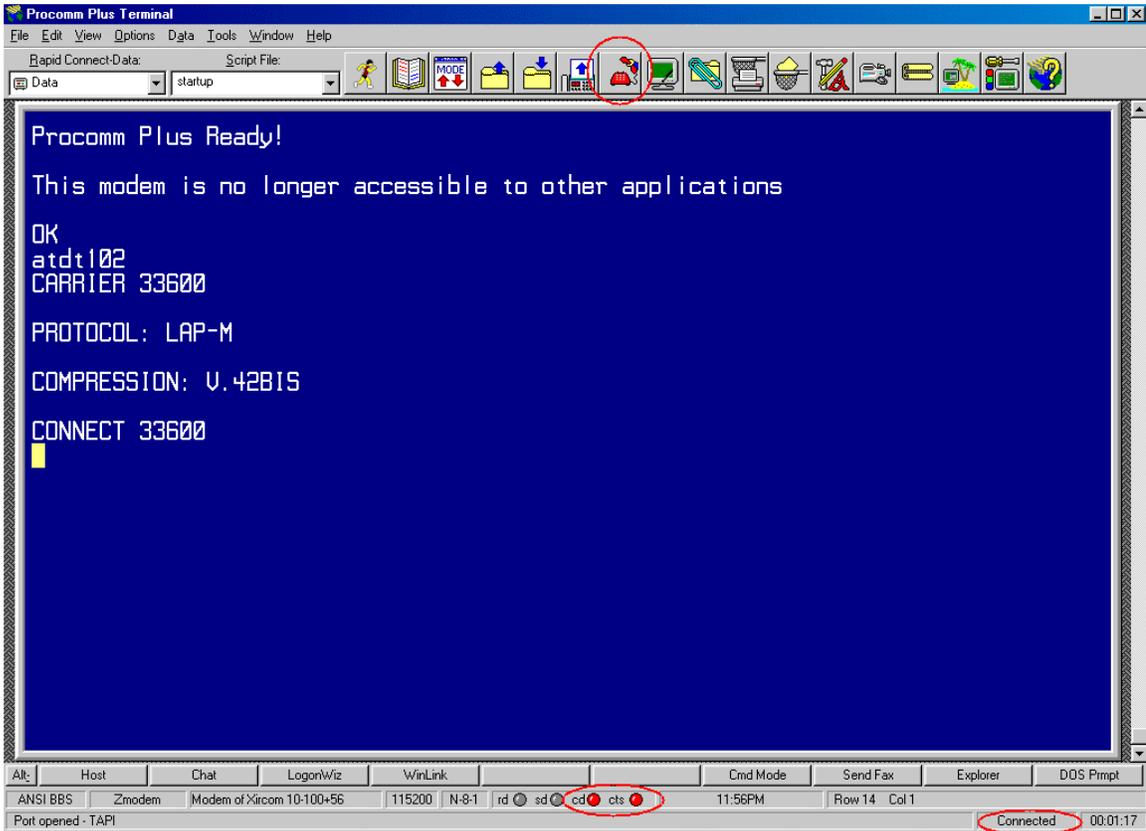

Figure 24 ProComm Plus Indicators
- There are three indicators in ProComm Plus that let you know you are connected. They are the phone icon on the toolbar will be off the hook, the cd and cts lights will be red, and the word Connected will appear at the lower right. See Figure 24.